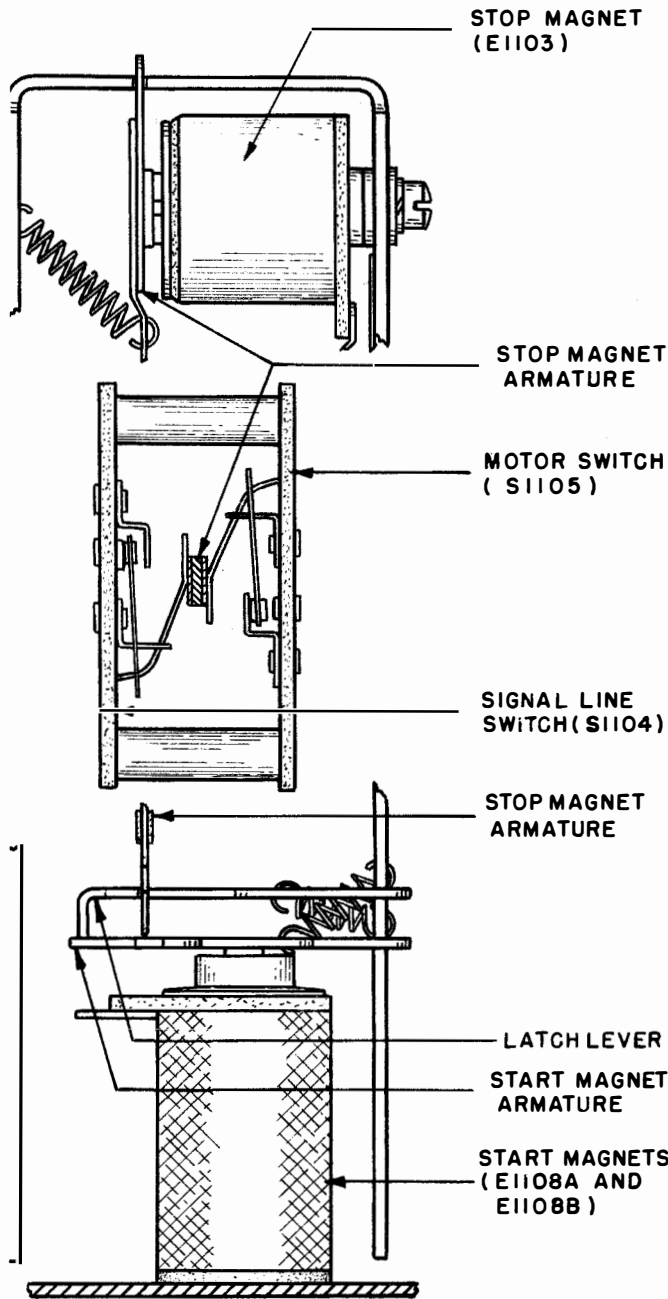

Figure 2-80. Electrical Motor Control Mechanism, Stop Position
(1) STOP POSITION. (See figure 2-80.)—In this position, the AC Motor is shut down, and the steady signal line current keeps the start magnets E-1108A and E-1108B, energized. The start magnet armature has been pulled downward and the stop magnet armature has been pulled toward the right in which position it is being held by the latch lever. The motor switch S-1105, operated by the stop magnet armature is open,
(4) STOP POSITION. (See figure 2-80.)—In order for the electrical motor control mechanism to return to this position and stop the AC Motor, the motor stop switch S-101 in the Keyboard must be pulsed by the time delay mechanism as shown in paragraph 3.l. of this section. This pulse energizes the stop magnet briefly and causes the stop magnet armature to swing to the right and again operate switches S-1104 and S-1105. As S-1104 operates, it places the start magnet coils back in the signal line circuit where they become energized and pull the start magnet armature downward. This allows the latch lever to engage the stop magnet armature and hold it in the stop position. As S-1105 operates, it opens the circuit to the AC Motor and to the copy light.